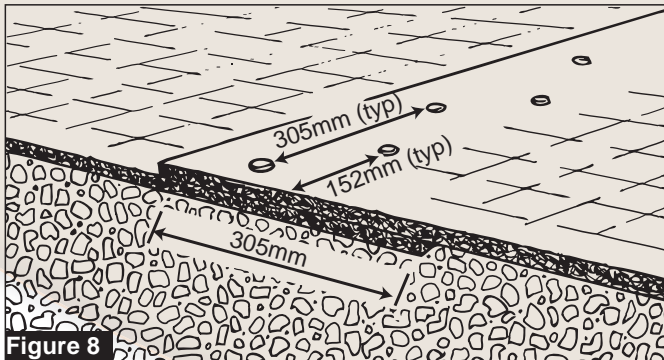

Figure 8
- Roll end: 300 mm minimum with upstream mat on top. Secure with two rows of ground anchoring devices staggered 300 mm minimum apart on 300 mm minimum intervals (see Figure 8).